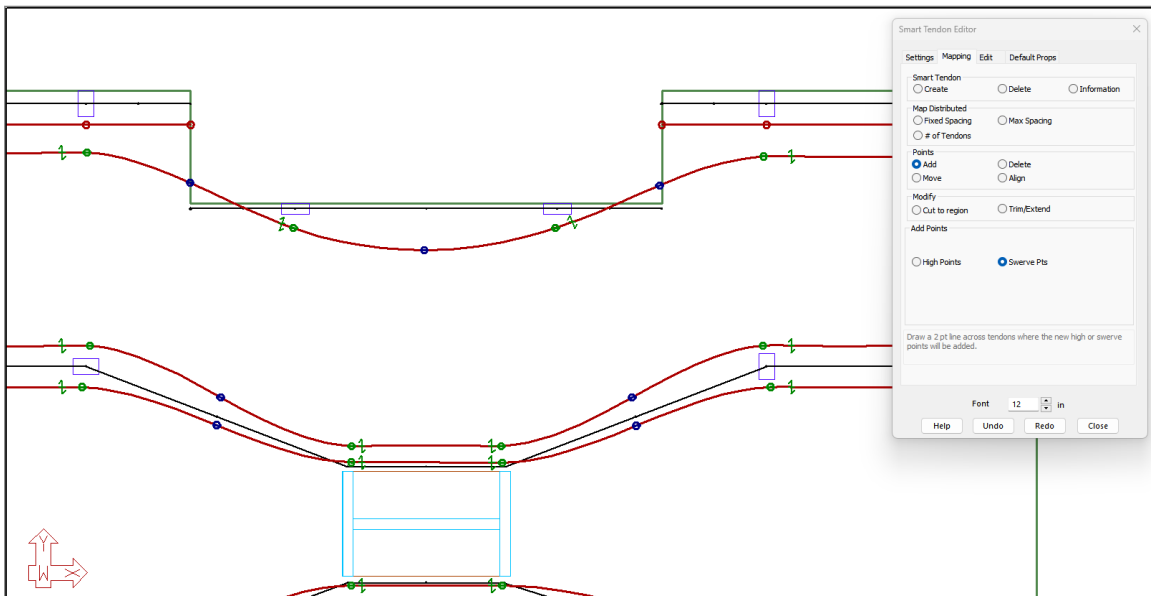

FIGURE 9-67
- The last place to clean up is the tendon that is swerving outside of the slab at the top of the model. Draw a construction line to add a swerve point outside of the middle two high points. Once completed, you will have added two swerve points to this tendon, as shown in **FIGURE 9-67**.